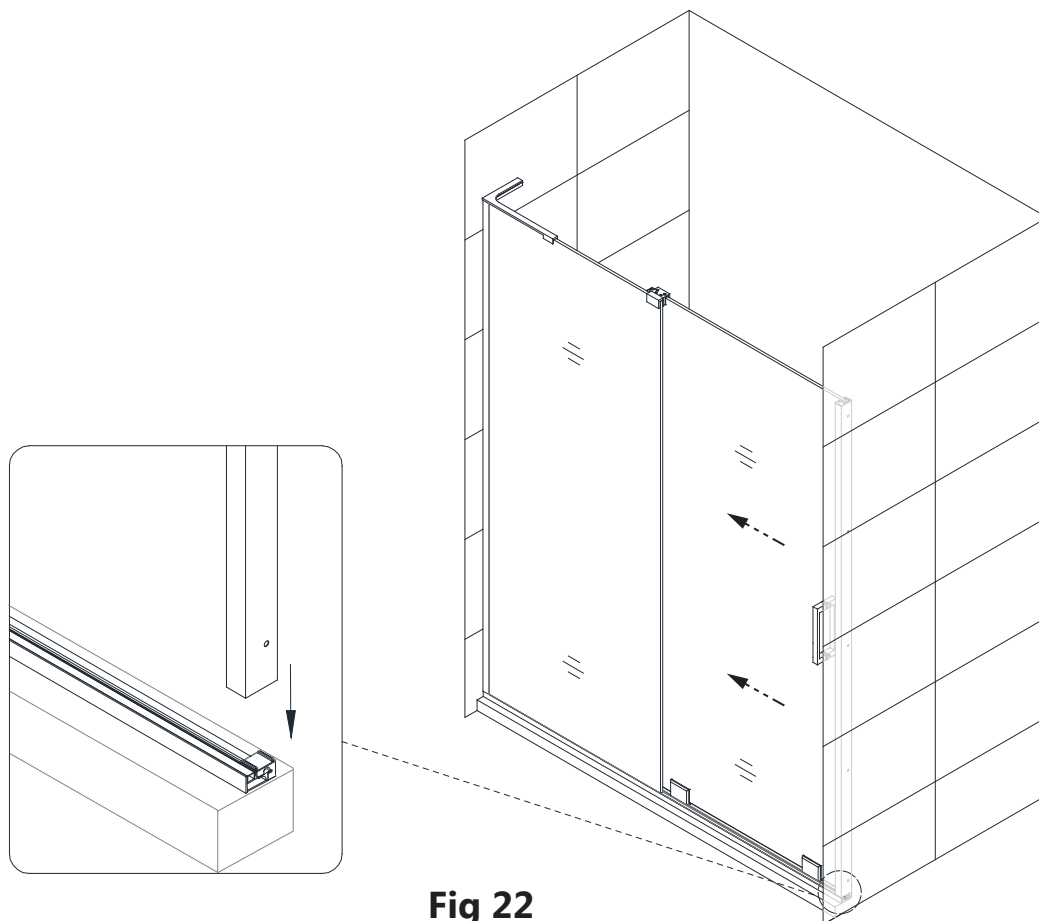

Fig 22
22. Position the **Wall Profile B (door side) (#22)** against the wall and onto the **U-Channel Support Block (#21)** on the door-side of the opening. **(Fig 22)**